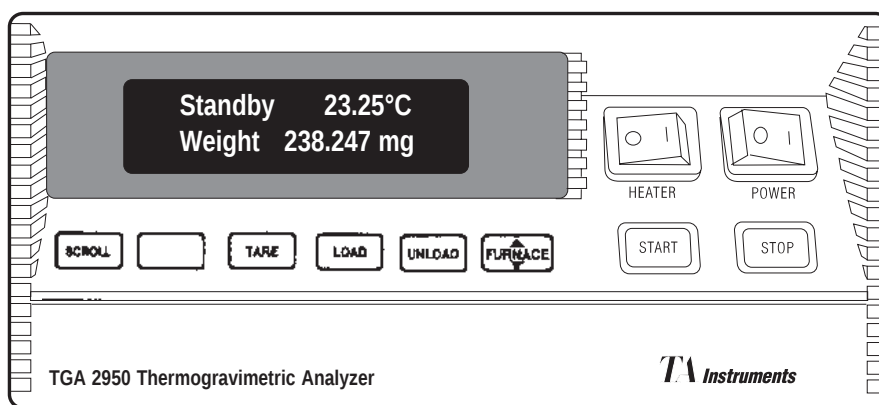

Figure 1.2
The TGA instrument display is the lighted area of the keypad (Figure 1.2). It contains two rows of 20 characters each.
The instrument keypad (see Figure 1.2) contains the keys found in Table 1.1 and the HEATER and POWER switches
The HEATER on/off switch (see Figure 1.2) turns the power to the instrument heater on and off. This switch should be in the ON (1) position before you start an experiment.
The POWER switch (see Figure 1.2) turns the power to the instrument on and off.